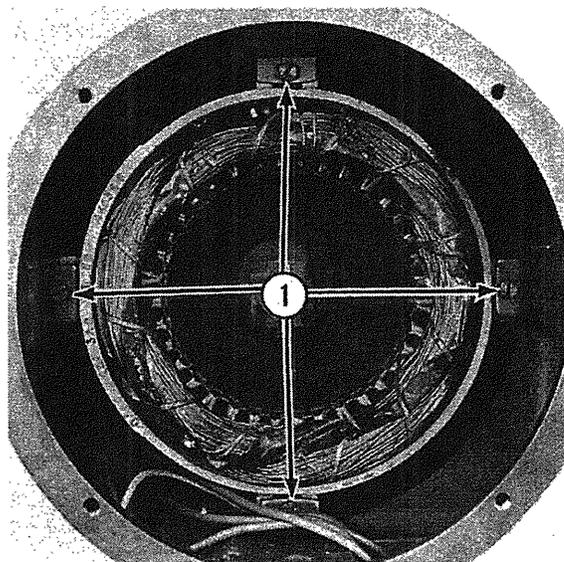

Fig. 8-7
- I. Disconnect all electrical leads. Remove four screws (1, Fig. 8-7).